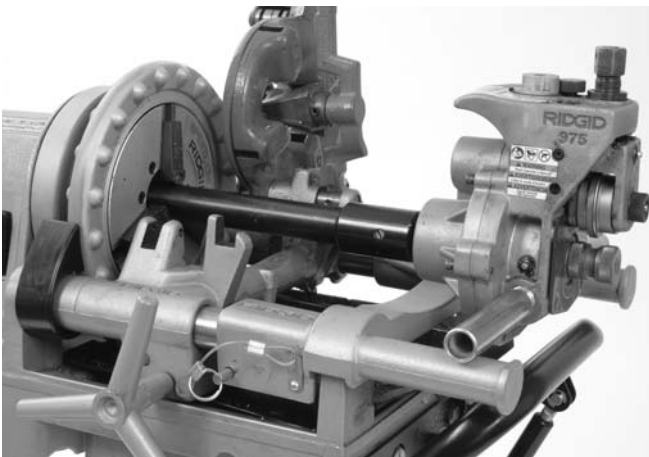

Figure 6 – 975 Combo Roll Groover Properly Mounted On 300 Compact Threading Machine
- Position the foot switch so that the operator can control the power drive/threading machine, the roll groover and the pipe to be grooved. As shown in Figure 6, the position should allow the operator to: